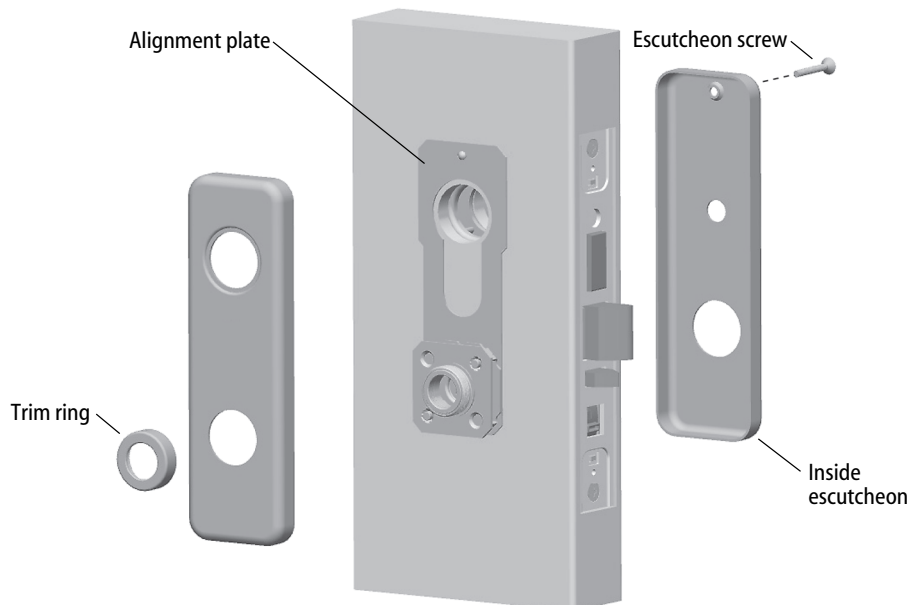

Figure 15b Installing the J trim escutcheons
- 1 For *J trim*, position the J alignment plate (Figure 15b) on the outside of the door.
For J trim (Figure 15b)